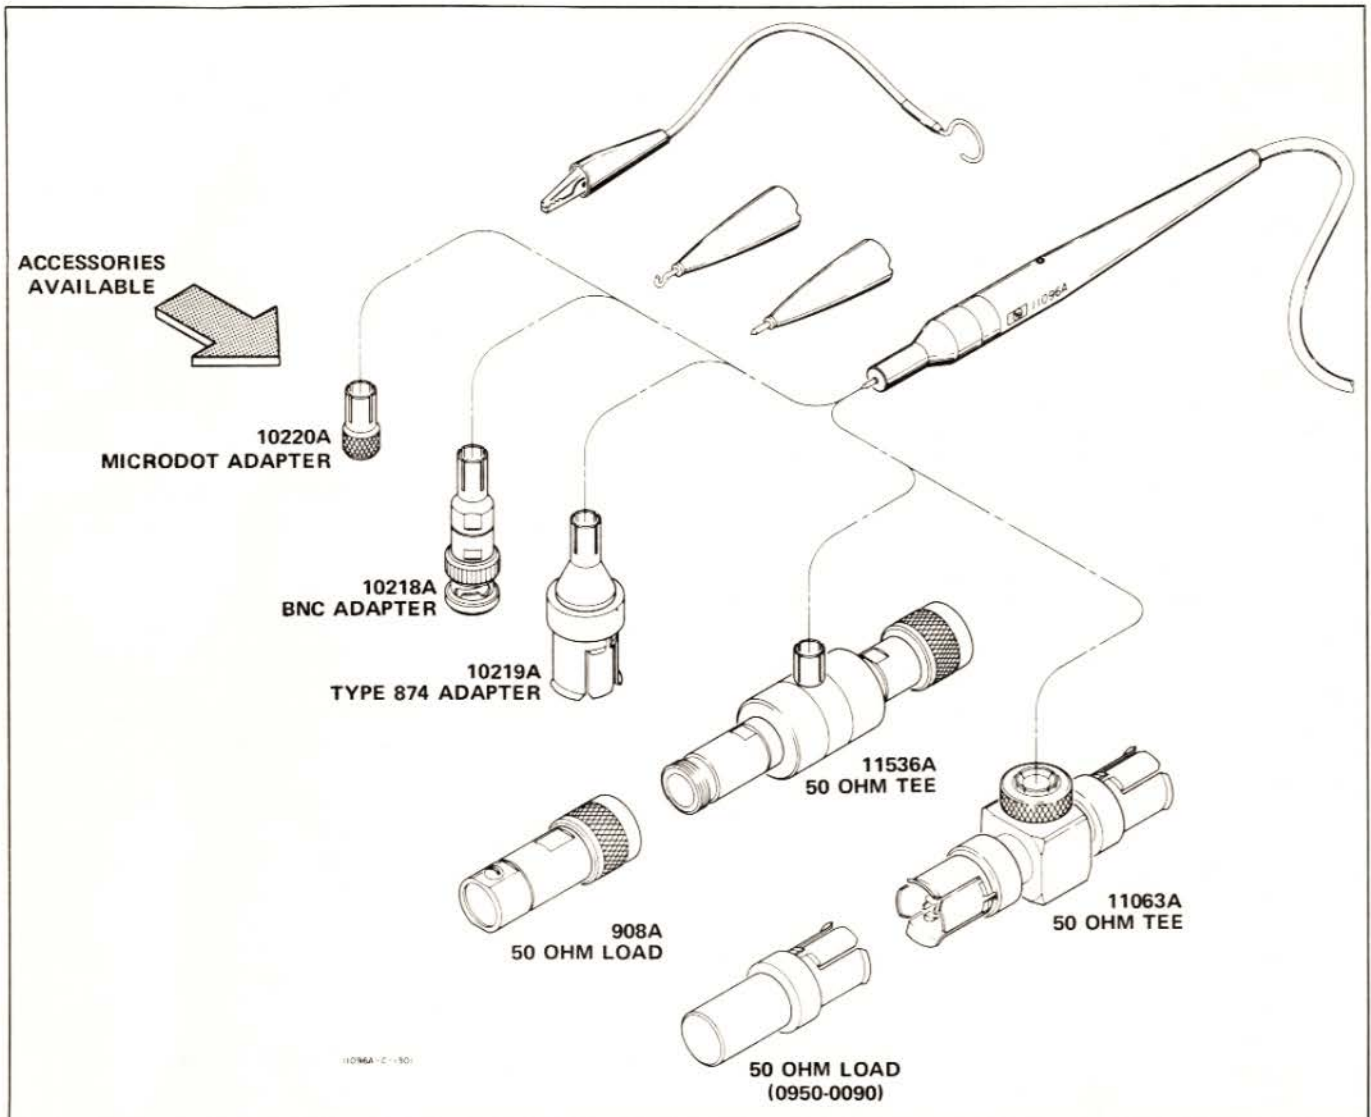

Figure 1. 11096A Probe Accessories
6. To extend the use of the -hp- Model 11096A Probe three probe-tip accessories are supplied. The Straight Tip or Hook Tip with the ground lead can be used for measurements up to 100 MHz. For measurements above 100 MHz the High Frequency Adapter permits the probe to be used with a 50 Ohm Tee, a BNC Adapter or other available accessories illustrated in Figure 1.
The ground lead is required with Straight Tip or Hook Tip. The High Frequency Adapter does not require the ground lead when used with one of the accessories shown in Figure 1.
10. The Hook Tip or Straight Tip can be used for measurements up to 100 MHz. Above 100 MHz use the High Frequency Adapter with one of the accessories shown in Figure 1.